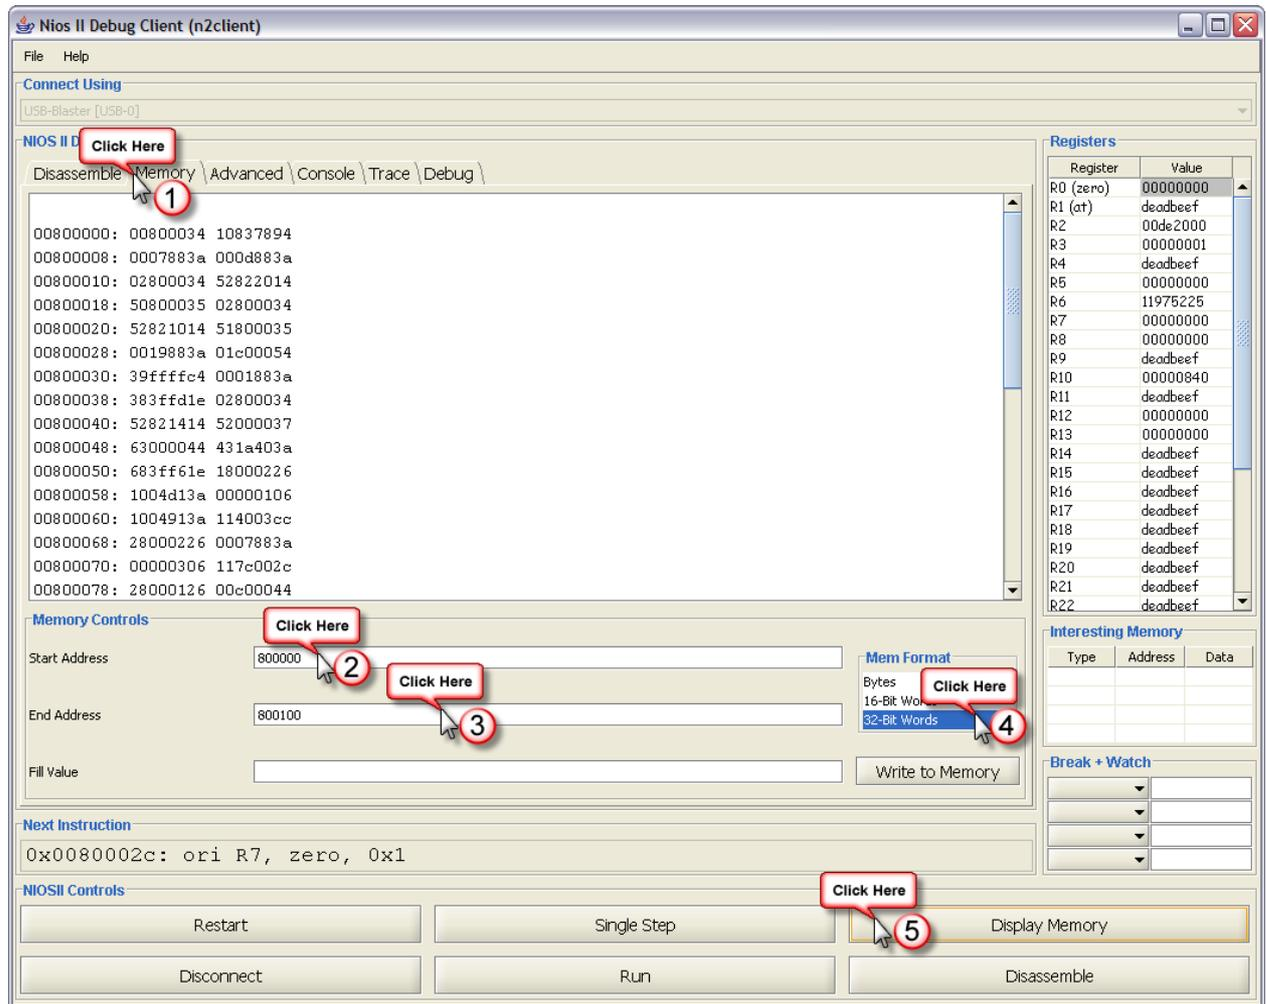

Figure 16: Examining Memory.
1. Click on the **Disassemble** tab as shown in Figure 16.
1. Click on the **Memory** tab as shown in Figure 16.
4. Select the format of the memory display from the **Mem Format** list. In Figure 16, the value **32-bit Words** is selected.